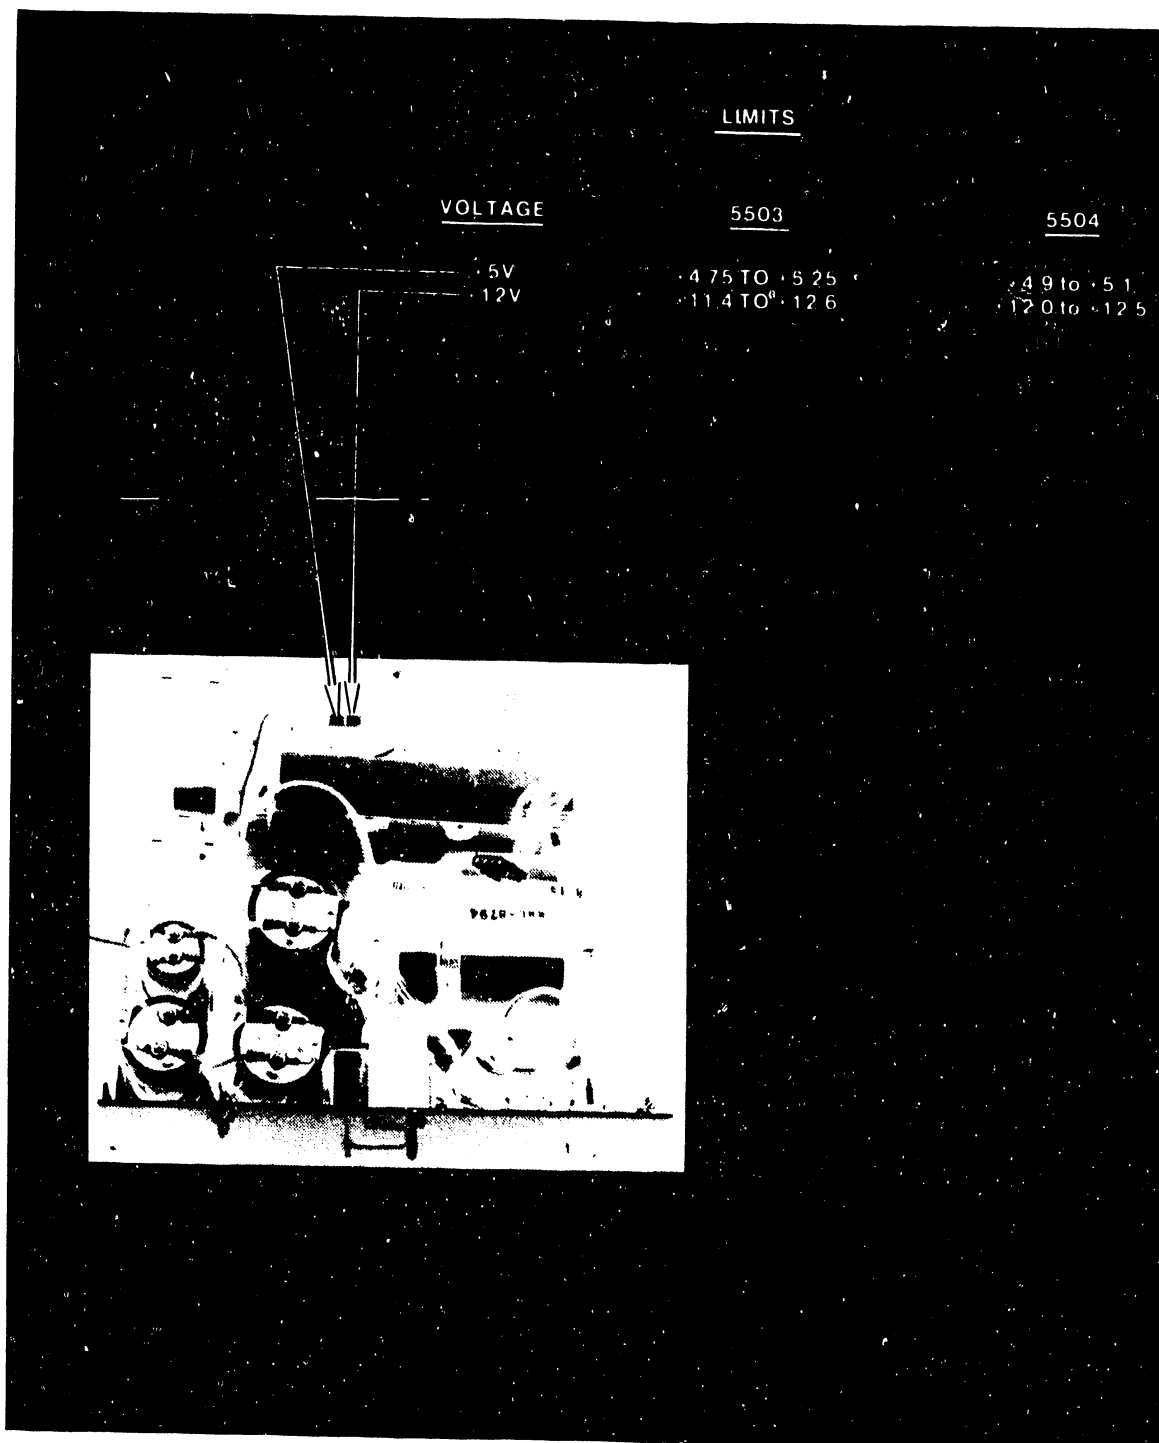

FIGURE 5-34 POWER SUPPLY VOLTAGE ADJUSTMENTS
Power supply voltage adjustments may be made only to the +12V and +5V supplies. The +12V and +5V adjustments are on the regulator board in the power supply drawer (see Figure 5-34). The power supply for Model 5504 Wangwriters must have a power draw of at least 10% of its rated capability (approximately 32 Watts) during test. Maintenance of normal system connections satisfies this requirement.
3. Fasten the negative lead of the voltmeter to ground (see Figure 5-34).
4. Fasten positive lead of the voltmeter to the respective check points as shown in Figure 5-34.
5. Turn system ON. Check/adjust voltages as indicated in Figure 5-34. If the voltages are not within the indicated limits, adjust R1 as close as possible to the center of the indicated limits. If adjustment is not possible, replace the regulator PCA and heat sink sub-assembly. If this fails to correct the problem, replace power supply (see paragraph 5.2.2).